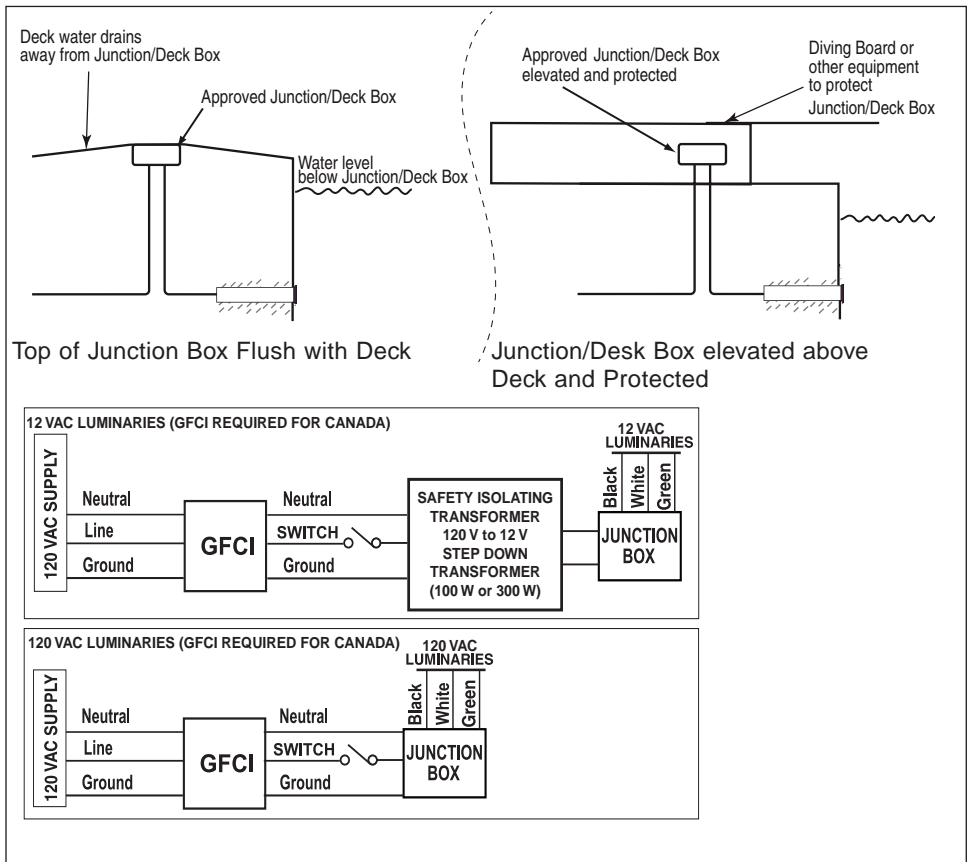

Figure 2, Canada.
- 120 VAC and 12 VAC lights **must have** a Ground Fault Circuit Interrupter (GFCI), and have an appropriately rated circuit breaker. Figure 2 on page 8.
- The GFCI or a transformer must be located at least 3 m (10 ft) or more from the edge of the pool, see *NOTE and Figure 2 on page 8.
- The junction/deck box must be sealed to the conduit to prevent water from getting into the box, see Figure 2 on page 8.
IMPORTANT! 120 VAC AND 12 VAC POOL/SPA LIGHTS MUST HAVE A GFCI CONNECTION. SEE FIGURE 2 BELOW.